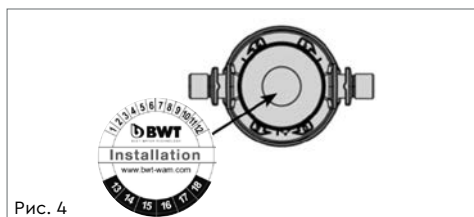

Рис. 4
7. Mark the included label with the installation date (month/year) and stick the label on top of the filter head (see Fig. 4).